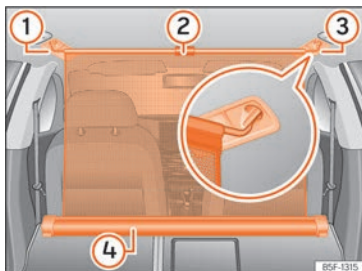

Fig. 128 In the luggage compartment: net partition hooked in place with the rear seat backs folded down.
- Pull up handle » **Fig. 128 ②** to remove the net from the casing » **Fig. 128 ④**.
- Hook in the net partition on the right or left side » **Fig. 128 ③** (magnified image).
- Hook in the net partition into the housing on the other side » **Fig. 128 ①** by pulling the rod.
The net partition is properly assembled when the T-shaped ends are firmly secured in the corresponding housings » **Fig. 128 ③** and **①**.
- Roll up the net into the casing » **Fig. 128 ④** »